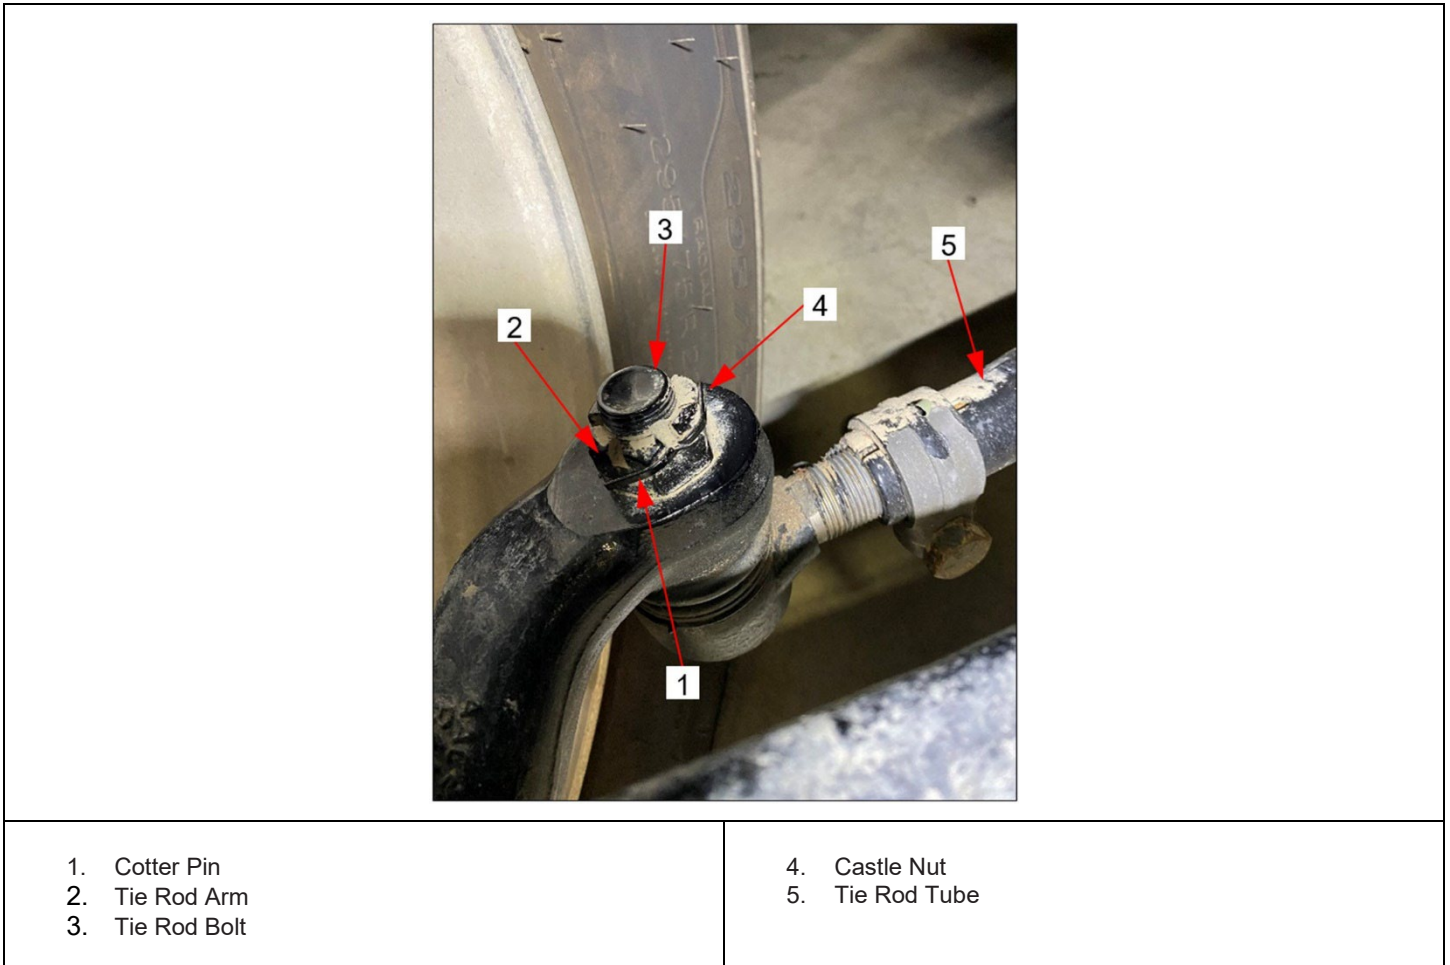
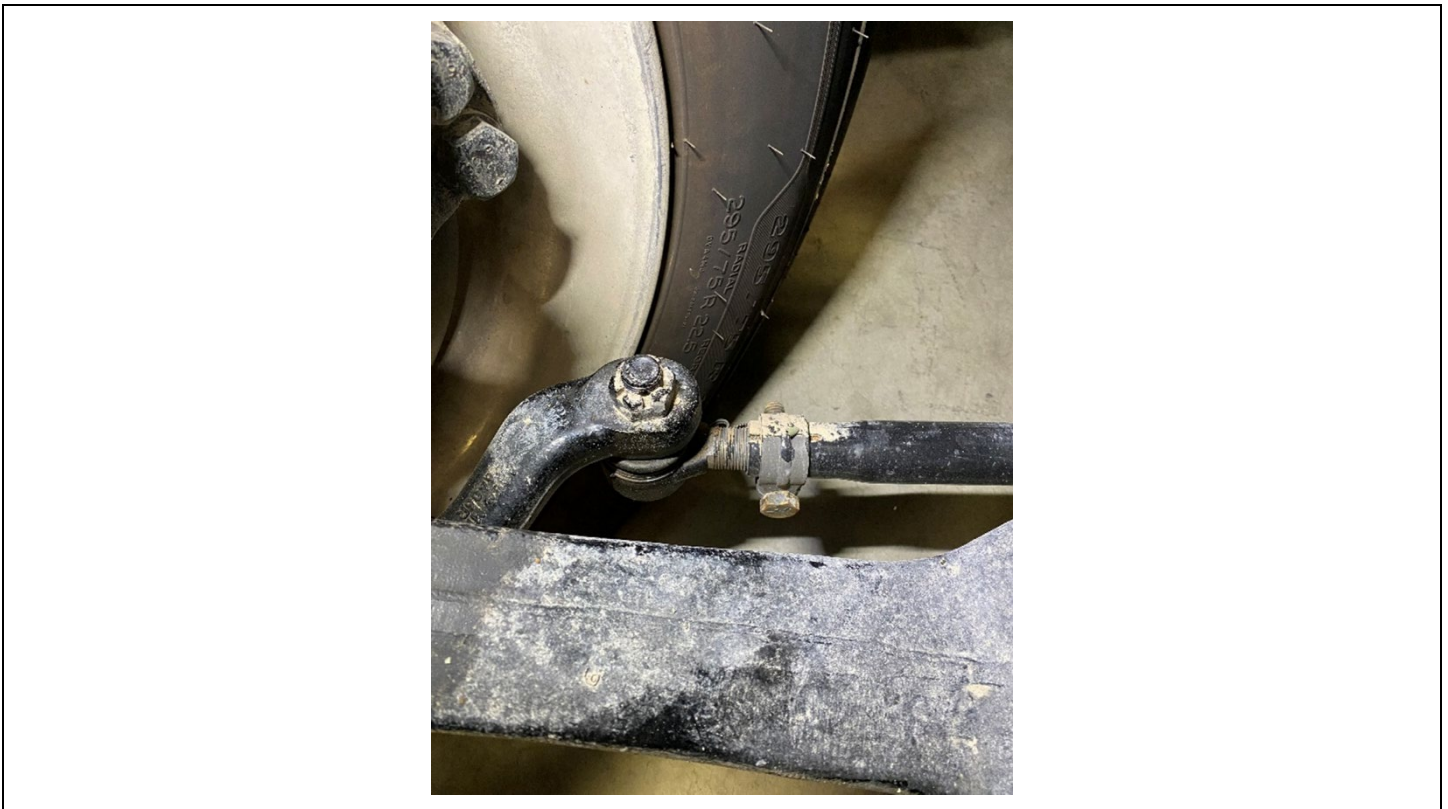

Fig. 2, Tie Rod Assembly
Fig. 3, Cotter Pin Removed
7. Remove the cotter pin from the tie rod end. See Fig. 2 and Fig. 3.